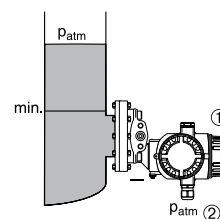

Figure 4: Measuring layout for level measurement in open containers with FMD76
- Mount the Deltabar S directly on the container (see Fig. 4)